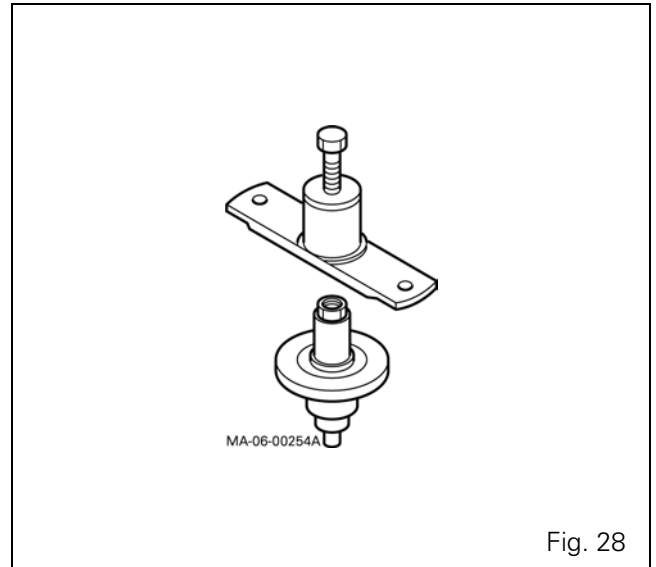

Fig. 28
- 3378117M1: Shimming tool (Fig. 28)